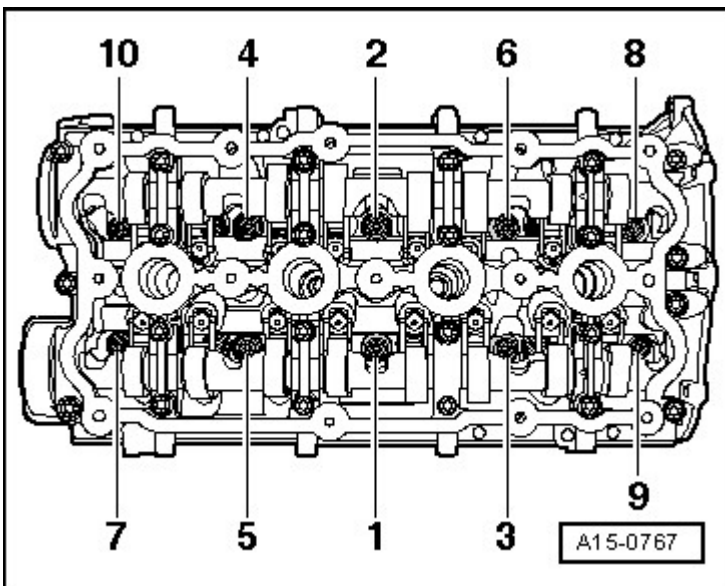

Fig. 12: Identifying Cylinder Head Bolts Tightening Sequence
- Observe sequence for tightening, refer to **Fig. 12**